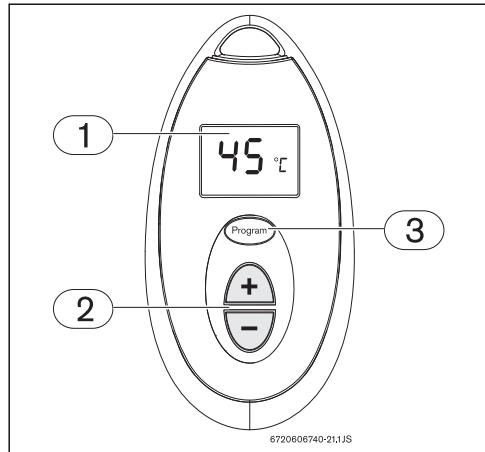

Fig. 14 Memorizing water temperature
- Press the buttons or on the remote control (Fig. 14, [pos. 2]), until the required temperature appears on the remote control display (Fig. 14, [pos. 1]).
- You will now be able to memorize this temperature by pressing the “Program” button on the remote control (Fig. 14, [pos. 3]) for 3 seconds.